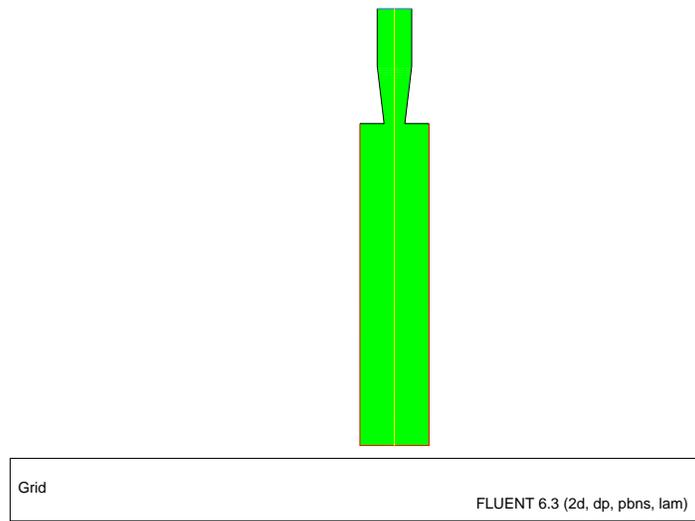

Figure 17.4: Grid Display of the Nozzle Mirrored and Upright
i. Drag the indicator of the dial with the left mouse button in the clockwise direction until the upright view is displayed (Figure 17.4).